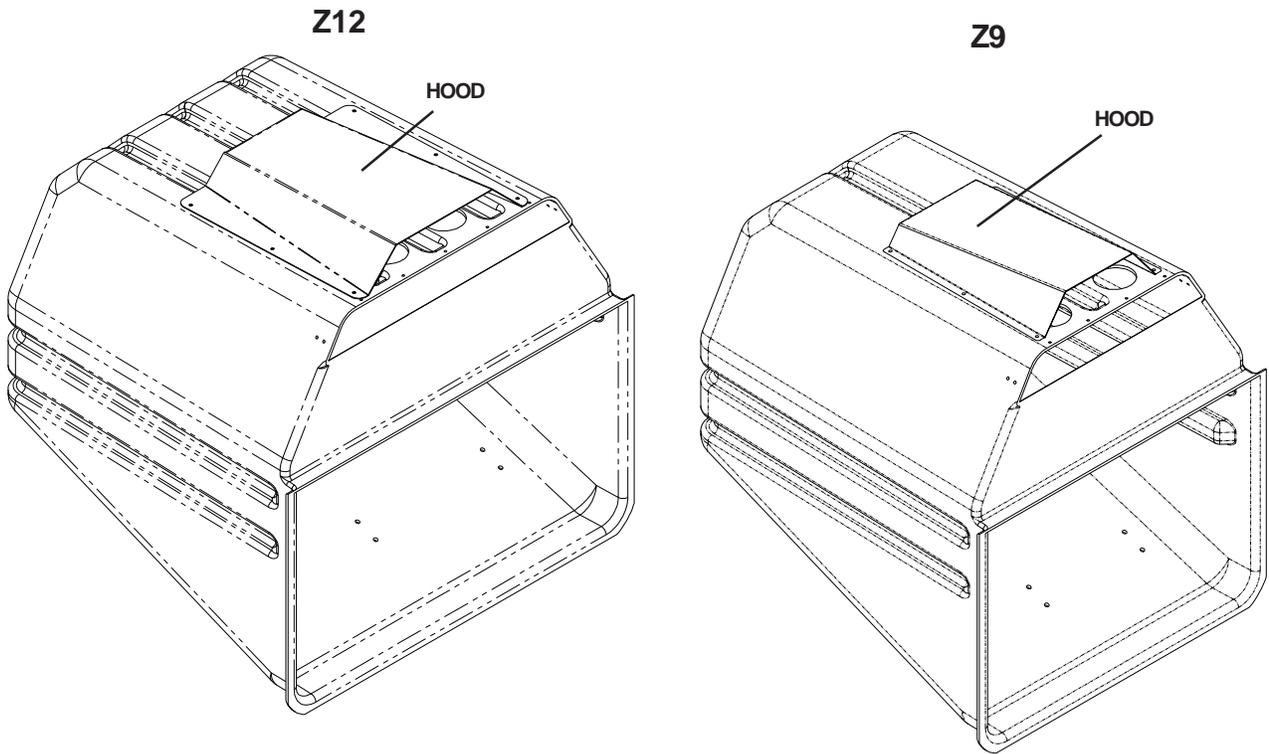

FIGURE 2
7. Using the hood as a template place hood on top of container and mark the six (6) mounting holes. Remove hood and drill 1/4" dia. holes. Align hood as shown in Figure 2.